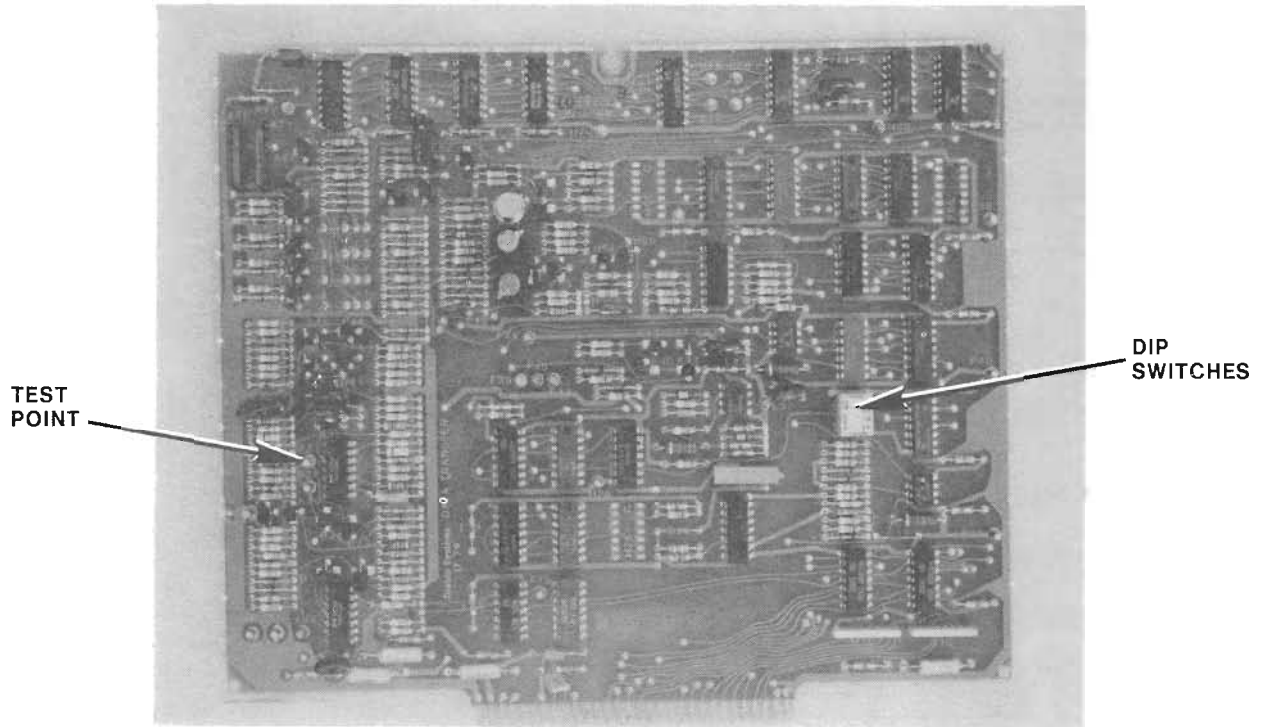

FIGURE 1 DATA TRANSFER PCB NO. 12143-PARTS LOCATION
- a. On Data Transfer PCB 12046, 12121 or 12143, set dip switch SW 2 (see figures 1 and 2) to the OFF position to write protect the alignment cartridge.